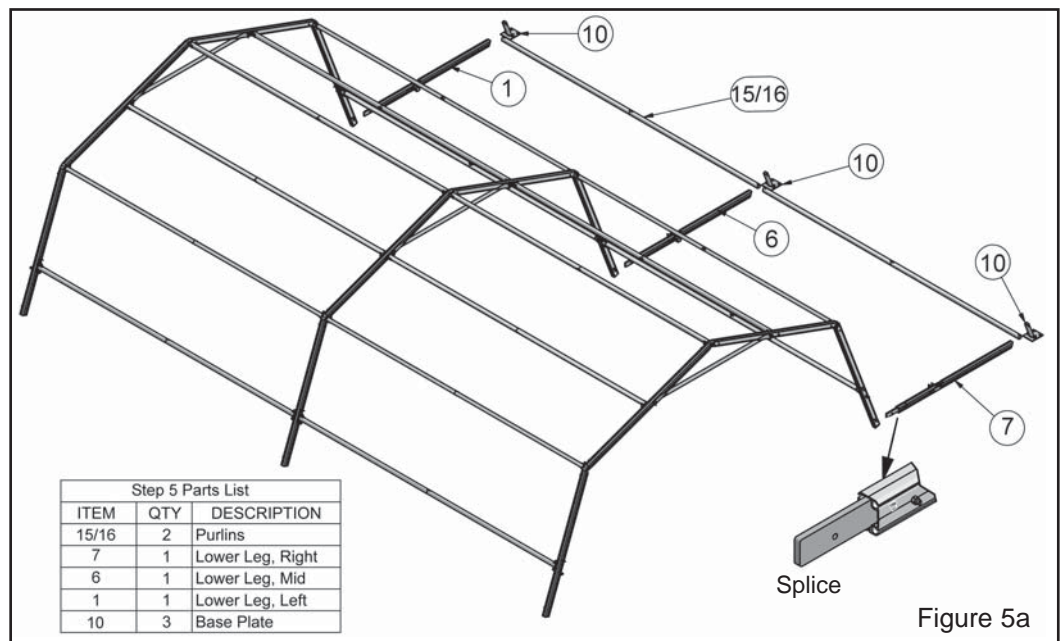

Figure 5a
- Lay out the parts. Three (3) lower legs, three (3) base plates and two (2) purlins. See Figure 5a.